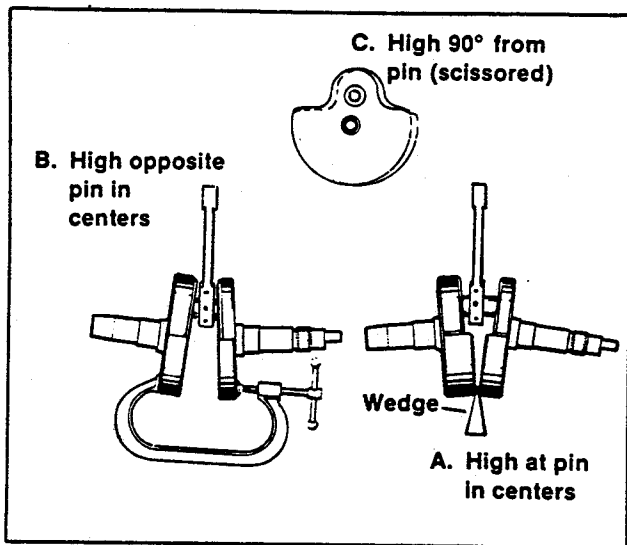

Figure 5-21. Correcting Crankshaft Misalignment
7. See Figure 5-21. Shafts must run true within .002 in. on fan side and .002 in. on transmission side. Correct flywheel alignment as follows: